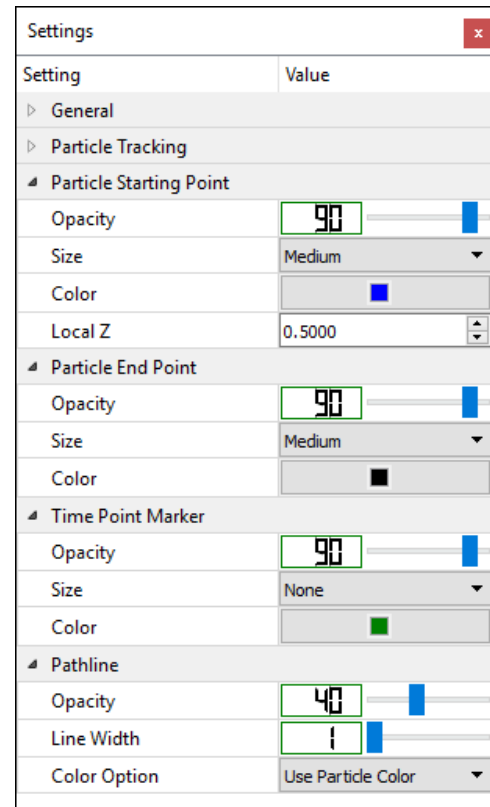

Figure 174. The Particle Starting Point, Particle End Point, Time Point Marker, and Pathline groups of the Settings window for MODPATH
- Ctrl+click the mouse at the desire location on the map to add a particle. The vertical coordinate of the particle is defined by $z = z_{bot} + z_L \cdot (z_{top} - z_{bot})$, where z_{bot} and z_{top} are the elevations of layer bottom and top, respectively, and z_L is the local vertical coordinate defined by Local Z (see Figure 174) in the settings window.
3. Particle Starting Point (Figure 174)
- 4. Particle End Point (Figure 174):** particle end points are displayed as diamonds on the map viewer, and they represent the particle stop locations.
- 5. Time Point Marker (Figure 174)**
- 6. Pathline (Figure 174)**